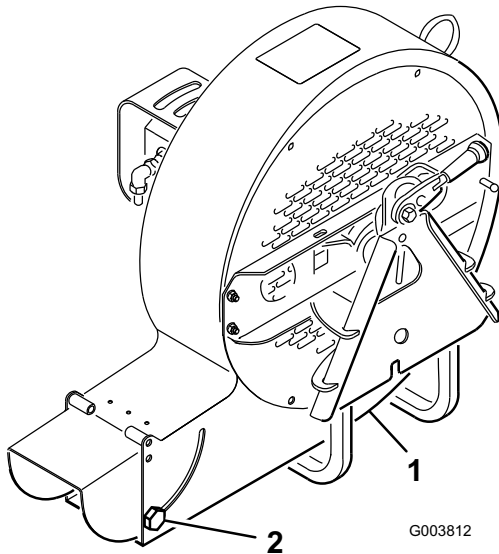

Figure 5
The discharge opening (Figure 5) is adjustable to increase or decrease air output velocity and volume. Decreasing discharge opening size will increase velocity.
1. Loosen discharge opening deflector mounting screws (Figure 5).